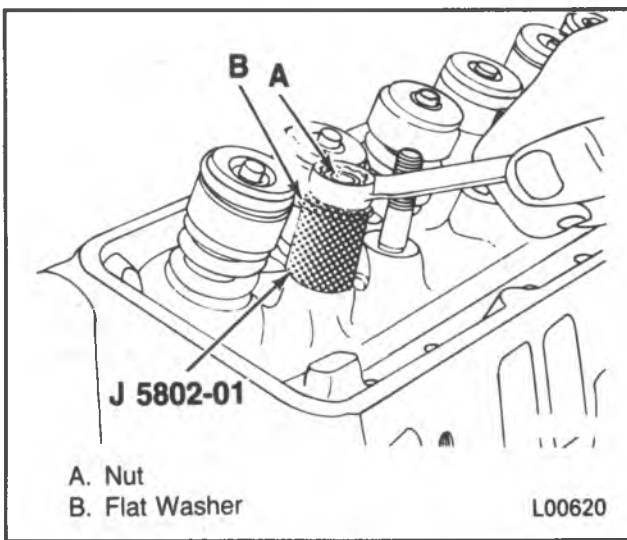

Figure 11 — Removing the Rocker Arm Stud
Remove or Disconnect (Figure 11)
- Turn the nut to remove the stud (figure 11).